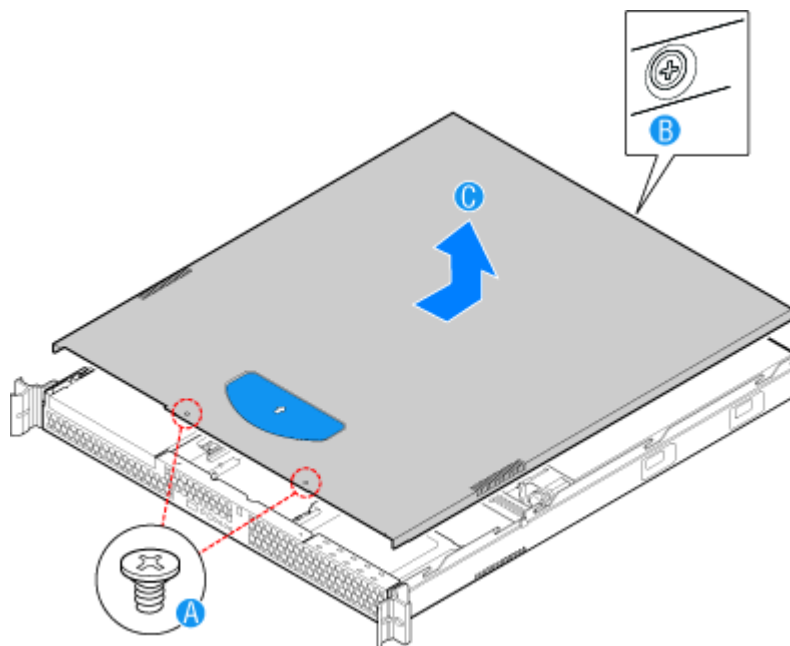

Figure 104: Removing the Server Cover
3. Remove the two screws at the front of the chassis. See letter “A” in Figure 104.
4. Loosen the screw at the rear of the chassis. See letter “B” in Figure 104.